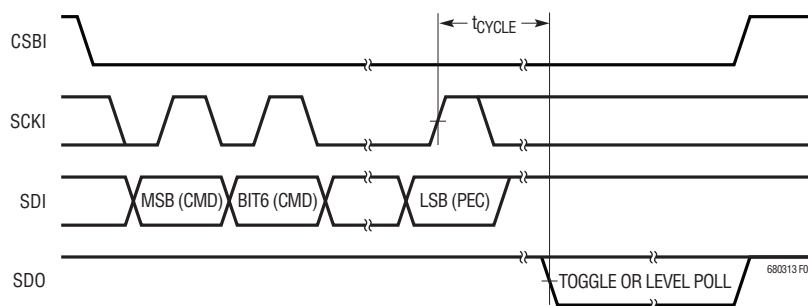
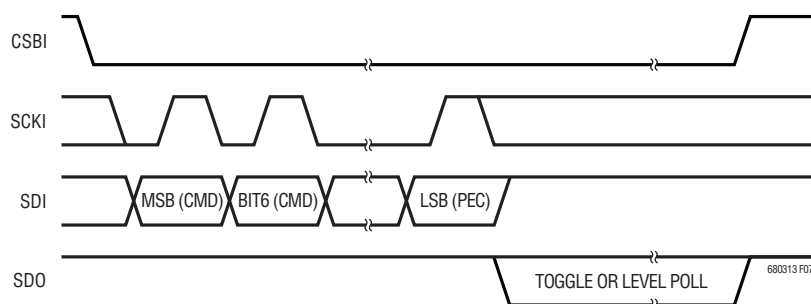

Figure 6. Transmission Format (ADC Conversion and Poll)
Figure 7. Transmission Format (PLADC Conversion or PLINT)
**Polling Methods:** For ADC conversions, three methods can be used to determine ADC completion. First, a controller can start an ADC conversion and wait for the specified conversion time to pass before reading the results. The second method is to hold CSBI low after an ADC start command has been sent. The ADC conversion status will be output on SDO (Figure 6). A problem with the second method is that the controller is not free to do other serial communication while waiting for ADC conversions to complete. The third method overcomes this limitation. The controller can send an ADC start command, perform other tasks, and then send a poll ADC converter status (PLADC) command to determine the status of the ADC conversions (Figure 7). For OV/UV interrupt status, the poll interrupt status (PLINT) command can be used to quickly determine whether any cell in a stack is in an overvoltage or undervoltage condition (Figure 7).